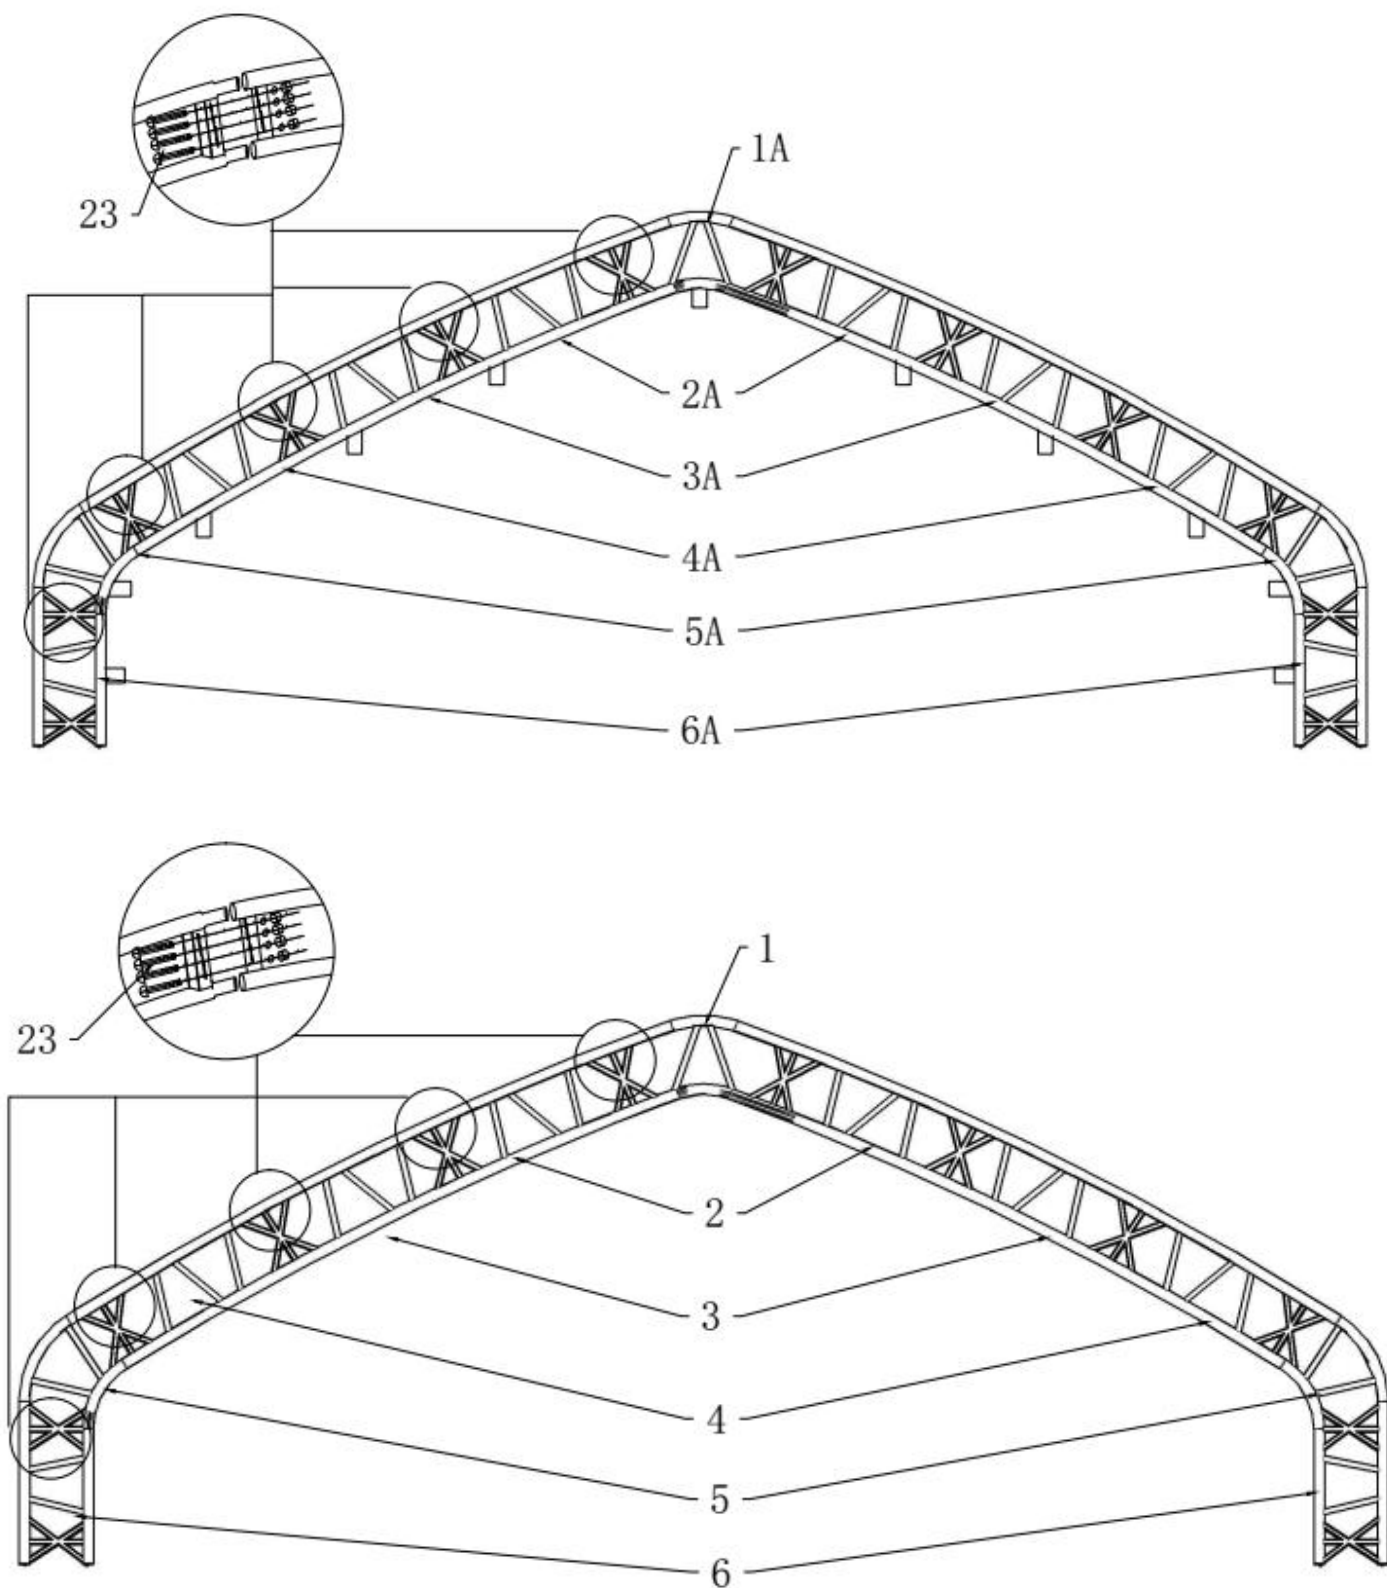

Figure 3
1. Figure 3 shows to connect the Top bent tube(No.1/No.1A),Upper bent tube(No.2/No.2A),Middle bent tube(No.3/No.3A), Lower bent tube(No.4/No.4A) ,Shoulder bent tube (No.5/No.5A)and Standing leg(No.6) with Screw M12x50(No.23),which makes in one arch. Do not install the bolts on top of the truss frame where the fabric will rest.